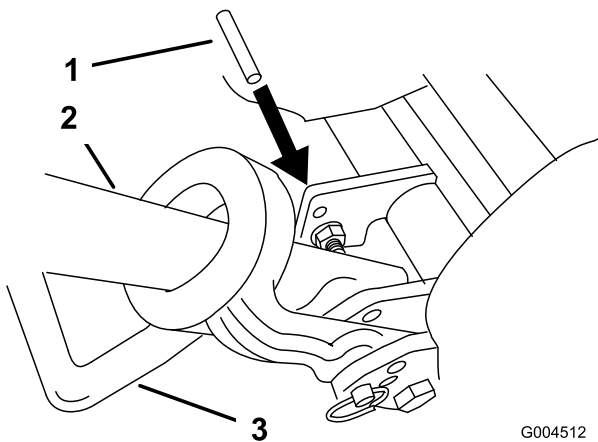

Figure 3
2. Lower kick stand. Insert a 1/4" dia. pin or equivalent into frame hole above kick stand mounting bolt (Figure 3).